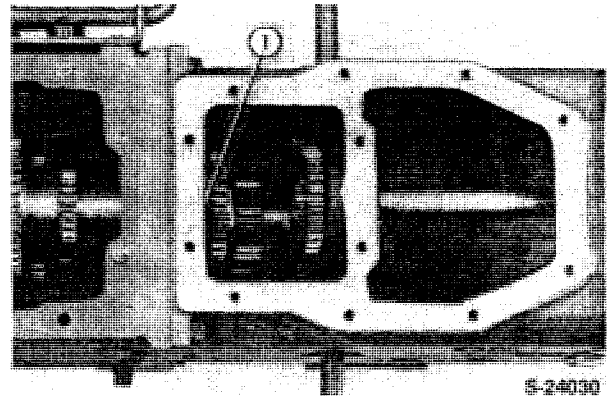

Figure 25
7. Remove the transmission cover and hydraulic lift cover, Figure 25.
8. Remove the internal buckle-up bolt (1), Figure 25.